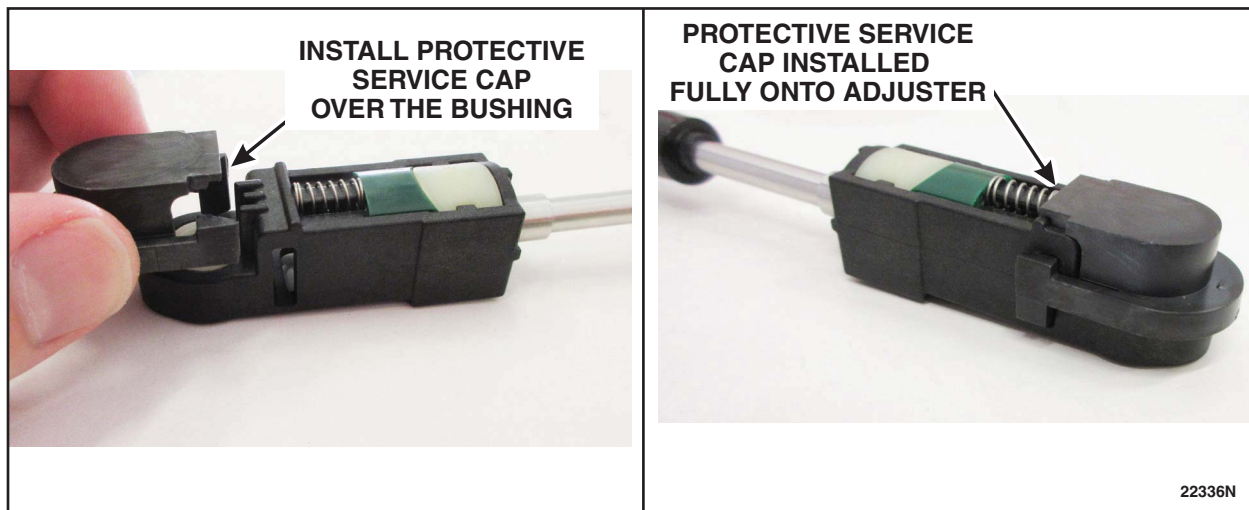

**FIGURE 12**
13. Slide the adjuster tab in place to lock the selector lever cable. See Figure 12.